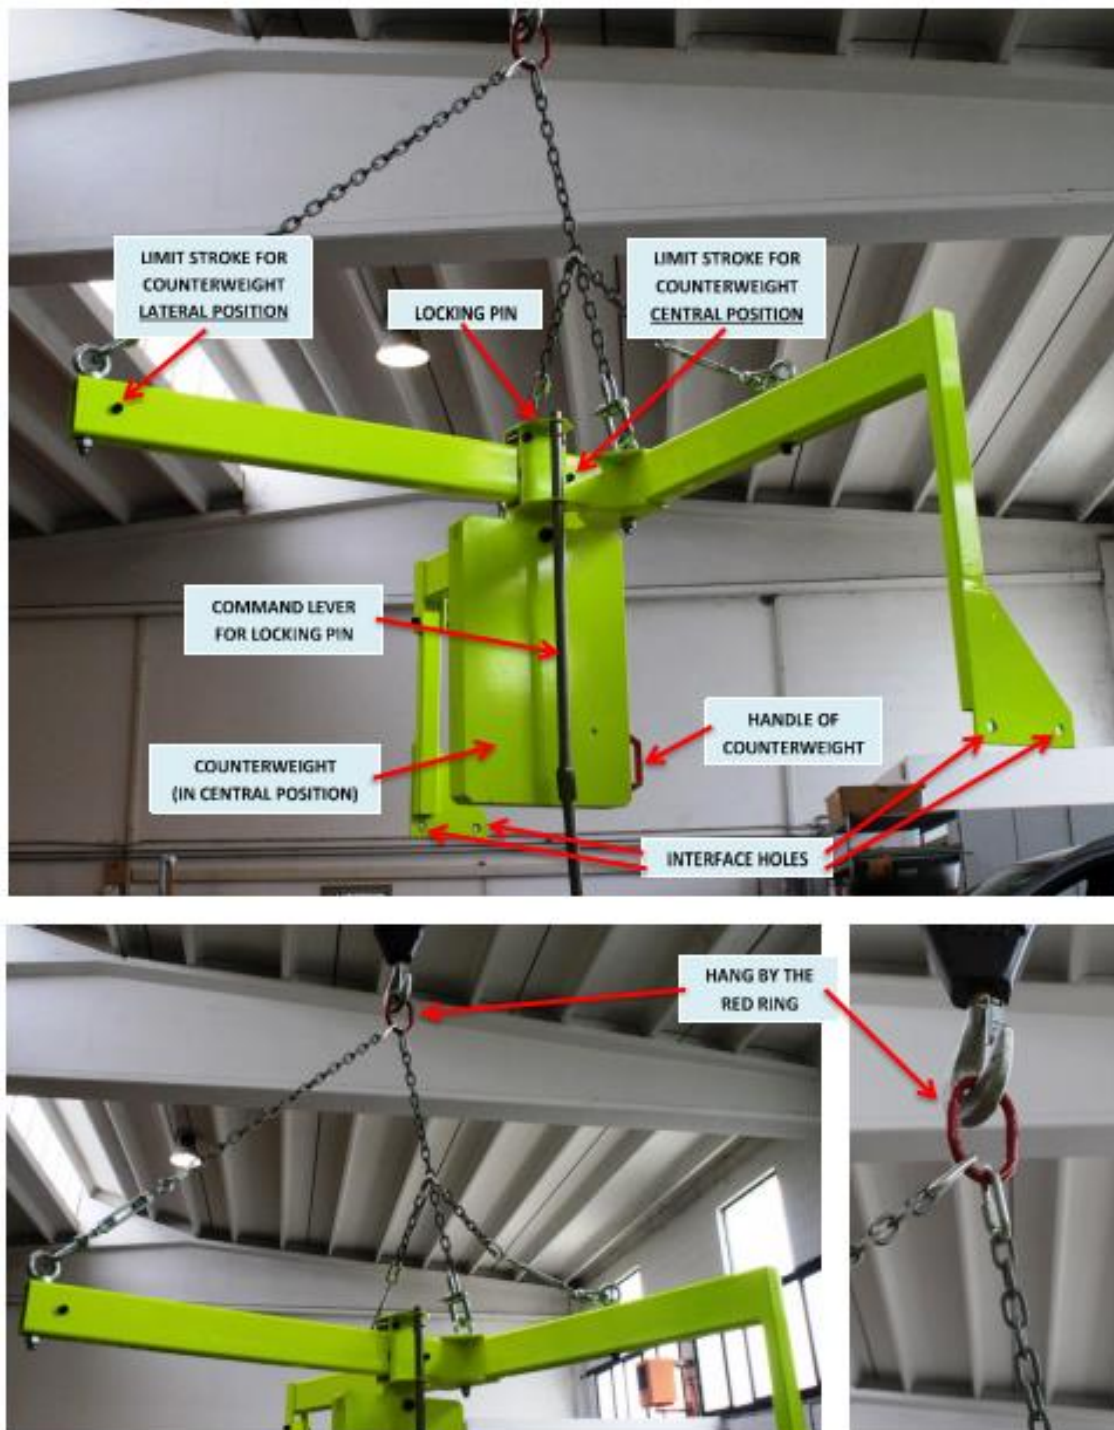

Figure 2. Image of the Handling device, its interface with the dichroic mount and crane.
2. The handling device: a custom made tool necessary to lift the Dichroic mount unit (see Figure 2). Its interface with the dichroic mount are 4x M14 pass-through holes, it must be hanged to the crane using the red ring at the end of the 2 chains. The 2 chains are already been calibrated on the dichroic mount weight distribution.